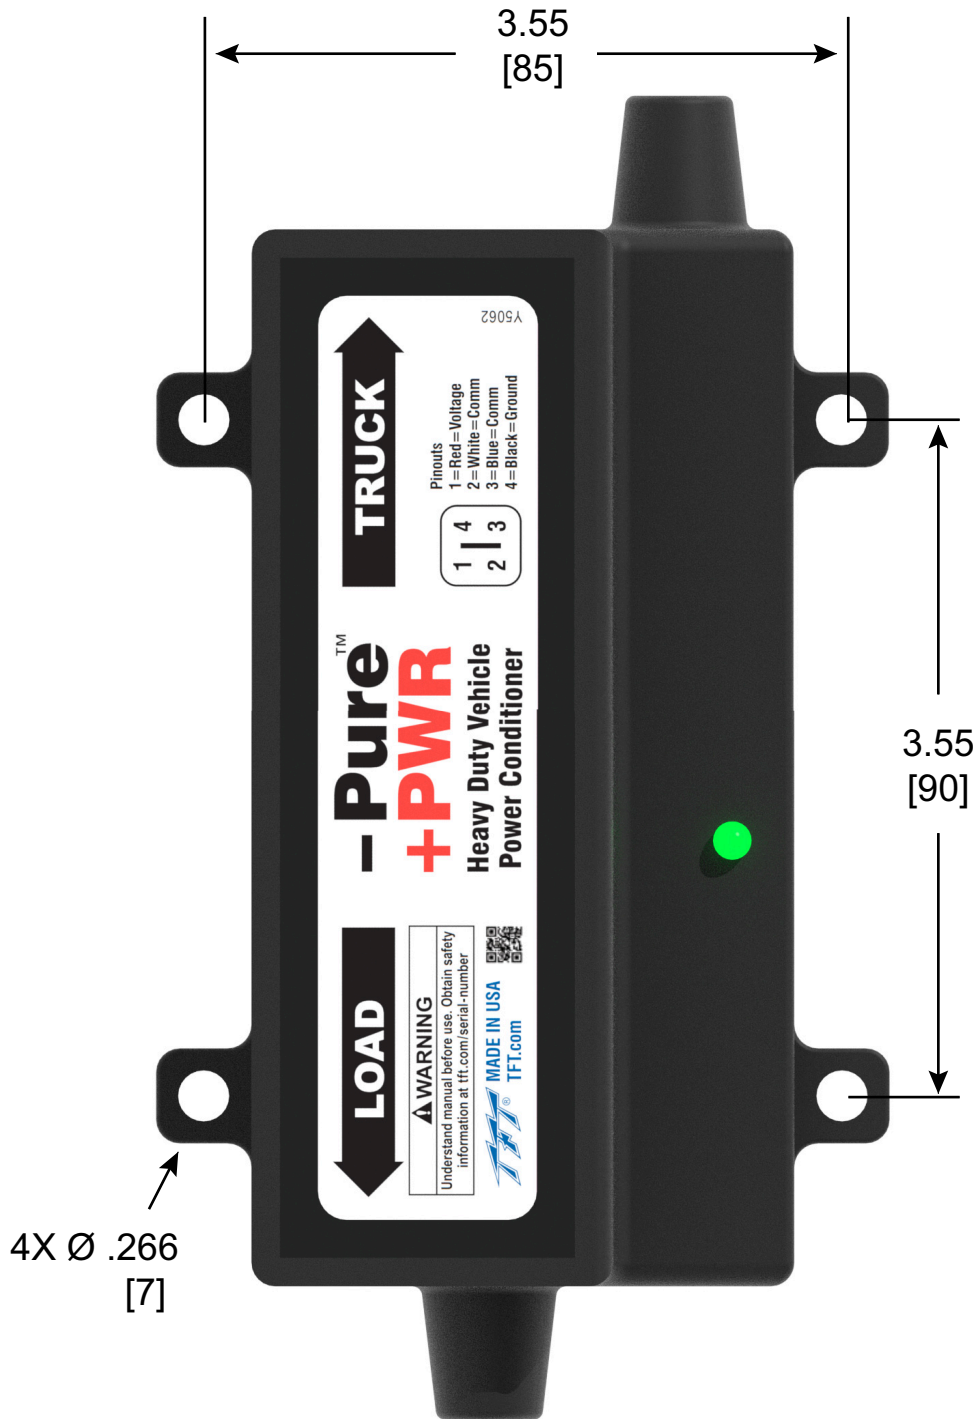

Figure 3.1
2. To ensure proper hole location, use the full-size mounting template in Figure 3.1.
4. Secure the unit using (4) 1/4-20 fasteners (not provided).